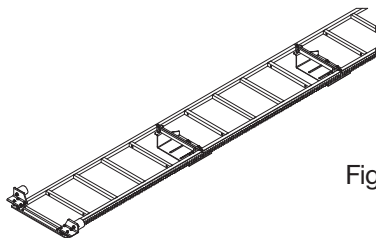

Fig. 8
5. Install the bottom mechanical stop and the bottom limit plate (see Fig. 8 and installation drawing).